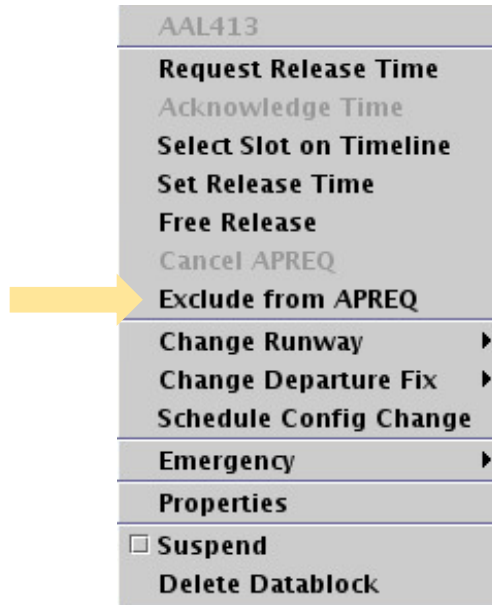

Figure 144. Right-click menu for a single flight.
**Step 1:** Right-click on the flight somewhere on the STBO Client interface – either the flight’s Timeline datablock, the flight’s Map datablock, or the flight’s row in the Flights Table (Figure 144).